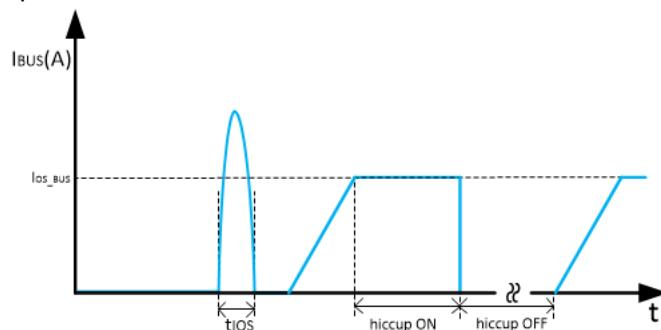

图 10-5. Response Time to BUS Short-Circuit
- The first condition is when a short circuit or overload is applied to the USB output when the device is powered up or enabled. There can be inrush current and once it triggers the approximate 8-A threshold, a fast turnoff circuit is activated to turn off the USB power switch within t_{OS_USB} before the current limit control loop is able to respond (shown in 图 10-5). After the fast turnoff is triggered, the USB power switch turns off for approximately 200 μ s, and restarts with a soft start. If the USB port is still in overcurrent condition, the short circuit and overload hold the output near zero potential with respect to ground and the power switch ramps the output current to I_{OS_BUS} . If the overcurrent limit condition lasts longer than 4.1 ms, the corresponding USB channel enters hiccup mode with 524 ms of off-time and 4.1 ms of on-time.